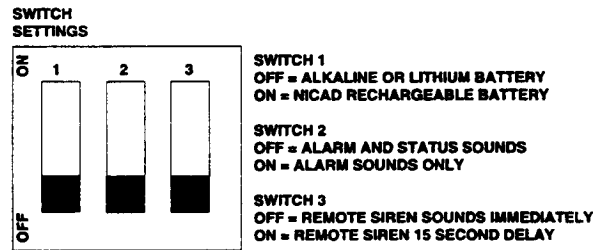

Figure 27. DIP Switch Settings
- 2) Set DIP switches as appropriate (see Figure 27).